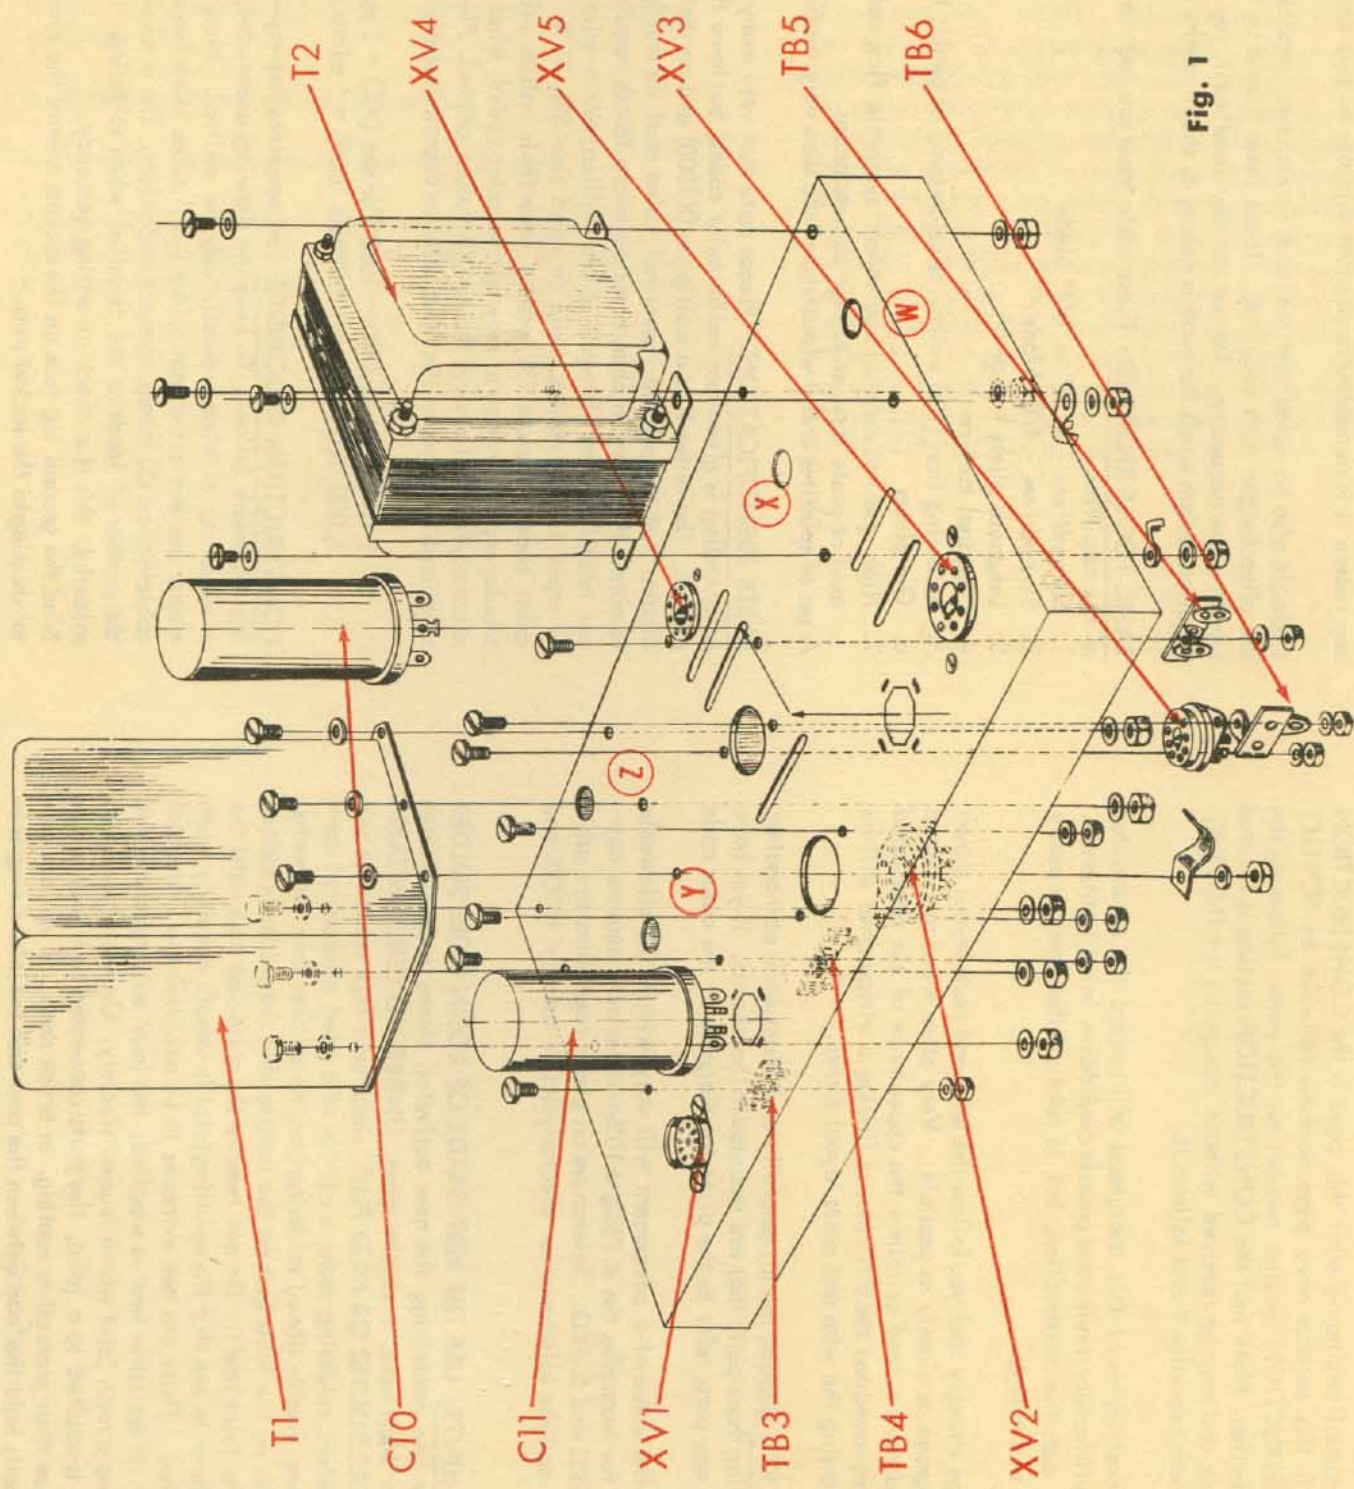

Fig. 1
1. () Fig. 1. On the output transformer T1, cut the red and red-yellow leads to 5", the brown and brown-yellow leads to 5", the blue and blue-yellow leads to 7", the black lead to 4", the white (slate) lead to 4 1/2", the green lead to 4" and the yellow lead to 2 1/2". Strip insulation back 1/4" from the end and tin the exposed wire with solder by dipping it into a solder pot or melting solder onto the wire with a hot soldering iron. Mount as shown, pushing the wires through the two large holes provided. Note that when oriented properly, the black, white, yellow, and green leads are easily pushed through hole "Z", while all other leads are pushed through hole "Y". Use six #10-24 screws and six #10 flatwashers above the chassis and six #10 lockwashers and six #10-24 hex nuts below chassis. Under one of the hex nuts, mount the cable clamp as shown, and run all the leads from hole "Y" under this clamp (Fig. 3).
2. () Fig. 1. On power transformer T2, cut the two red leads to 5", the red-yellow and white leads to 2", the yellow leads to 7", the black lead to 2 1/2", the green leads to 3 1/2" and the red-black, green-black and blue leads to 2". Tape up the end of the blue lead so that no bare wire is exposed. From all other leads, strip the insulation back 1/4" from the end and tin the exposed wire with solder by dipping it into a solder pot or melting solder on the wire with a hot soldering iron. Mount as shown, pushing the wires through the two large holes provided. The green leads, and all other leads coming from this same hole in the transformer are pushed through hole "X" in the chassis. All
3. () Fig. 1. Mount the electrolytic can capacitors C10 and C11 as shown. Note the half moon and triangle near the lugs to determine direction of mounting (Fig. 3). Insert the mounting tabs into the slots in the chassis and twist the tabs somewhat less than a quarter turn. DO NOT twist the tabs excessively or they will shear off. Solder the tab on each without a hole, to the chassis at its slot.
4. () Fig. 1. Mount the octal sockets XV2, XV3, XV4 and XV5, as shown, from below the chassis. Note direction of orientation in Fig. 3. Use two #6-32 screws, two #6 lockwashers and two #6-32 hex nuts. Under one of the hex nuts of XV3, mount the one post right terminal strip, TB6.
5. () Fig. 1. Mount the 9 pin miniature tube socket, XV1, from the top of the chassis, as shown. Note direction of orientation in Fig. 3. Use two #4-40 screws, two #4 lockwashers and two #4-40 hex nuts.
6. () Fig. 1. Mount the two post with ground terminal strip, TB3, three post two right terminal strip, TB4, and two post terminal strip, TB5 as shown. Use one #6-32 screw, one #6 lockwasher and one #6-32 hex nut on each.